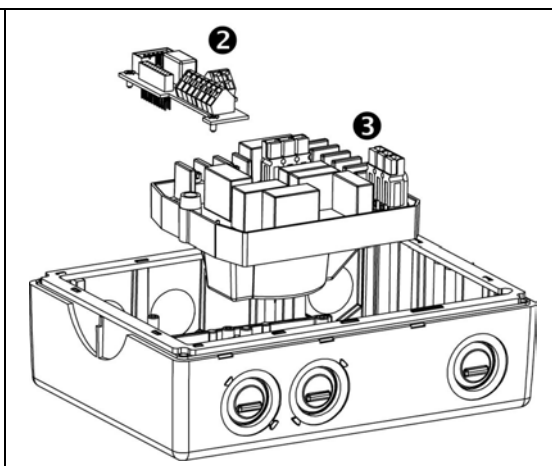

Figure 2-2 Removing the Filter and I/O Boards
3. Remove the I/O Board ❷ (as shown in Figure 2-2).
4. Remove the Filter Board ❸ (as shown in Figure 2-2).